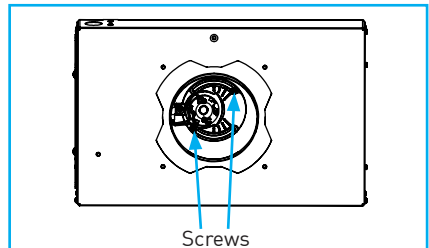

Fig.10
**To rotate LED module:** Loosen two Phillips screws, rotate LED as shown below and tighten screws “Fig.10”.
**To reposition LED module:** Remove two phillips screws “Fig.10”, rotate LED module and replace screws, tightening uniformly to ensure the module is flat and flush to housing lid.